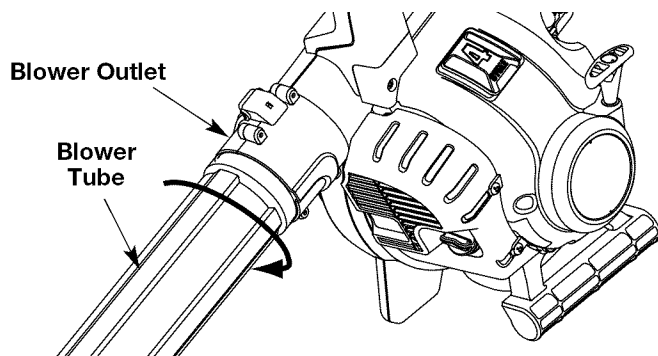

Fig. 2
3. Twist the blower tube clockwise inside the blower outlet until the bump locks into place (Fig. 2).